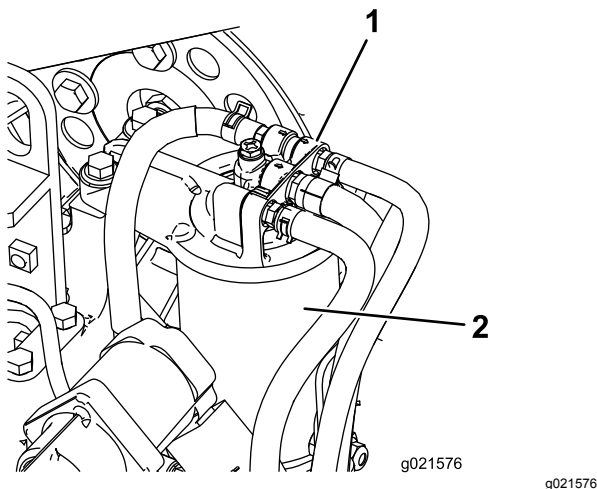

Figure 89
1. Clean the area around the fuel-filter head (Figure 89).
2. Remove the filter and clean the filter-head mounting surface (Figure 89).